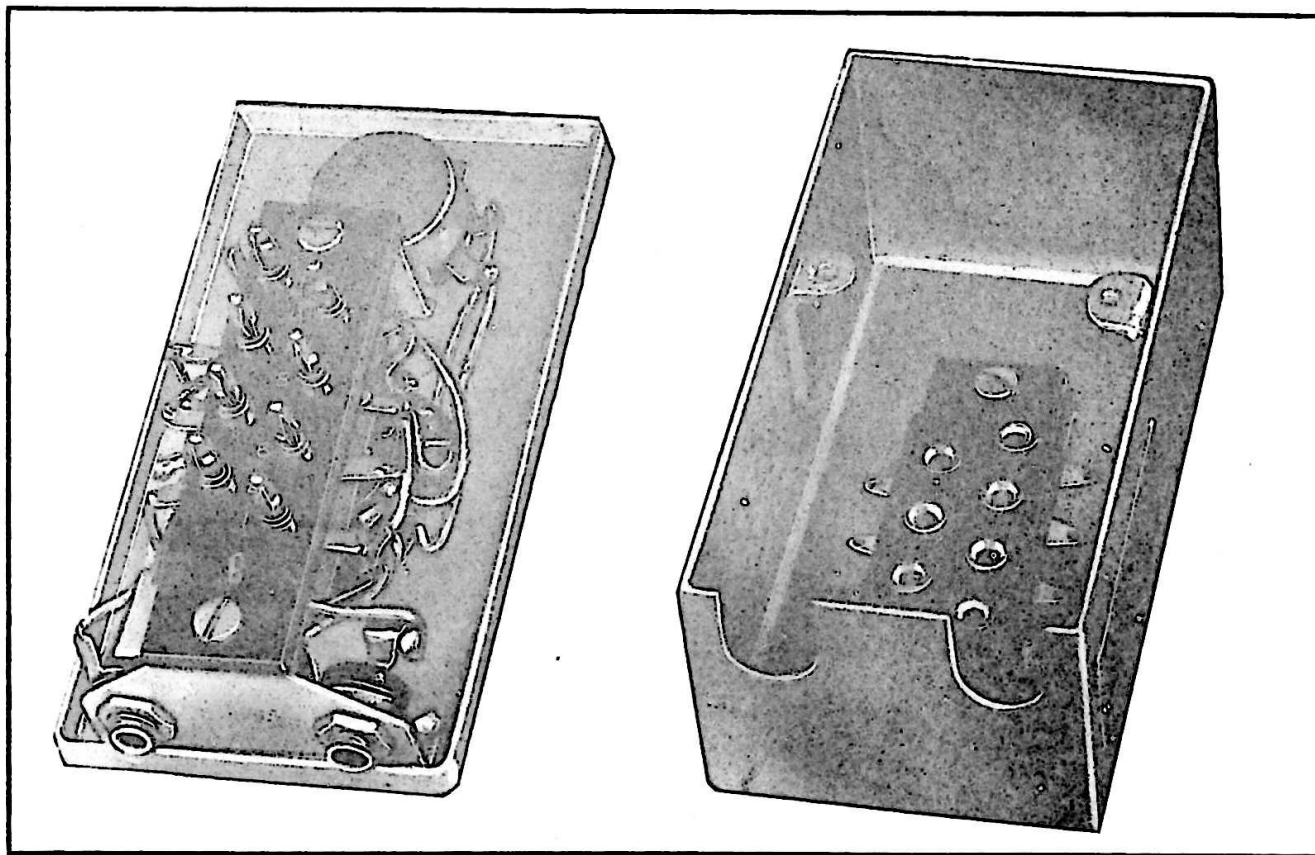

Figure 6-2. Jack Box BC-213-B—Interior View
b. Jack Box BC-213-A and B.—Jack Box BC-213-A or BC-213-B consists of a four-position rotary switch, a variable resistor, a phone jack, a microphone jack, and plug and jack terminal strips, all housed in an aluminum box. (See fig. 6-2.) The approximate size is $5\frac{1}{2}$ " x $2\frac{7}{8}$ " x 3" and the weight approximately 1 lb. The switch positions are marked "R-1", "R-2", "INT" and "I-R".